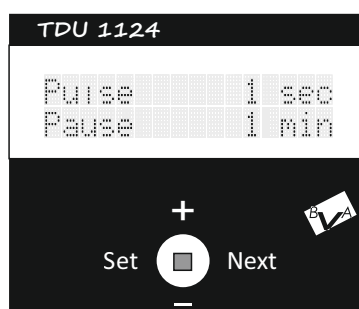

fig.11
3. Pulse generator setting.see fig 11.